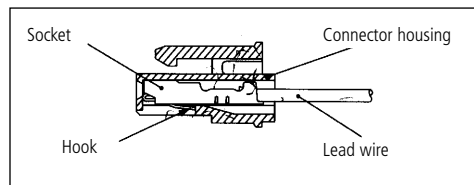
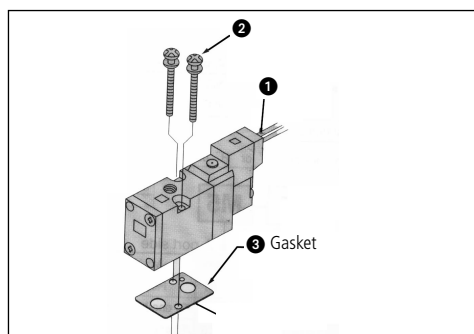

Fig 6
Fig 10
Disconnection of plug connector (Fig 6)
Removing a valve from the base (Fig 10)
- Disconnect the electrical connector 1 (Fig 10). (Also refer to Fig 6).
- Remove the valve holding down screws 2 and retain (Fig 10).
- Retain the gasket 3 (Fig 10).
- Refit the gasket 3 (Fig 10) ensuring correct orientation.
- Refit the valve holding down screws 2 (Fig 10).
- Remove valve as shown above (Fig 10).